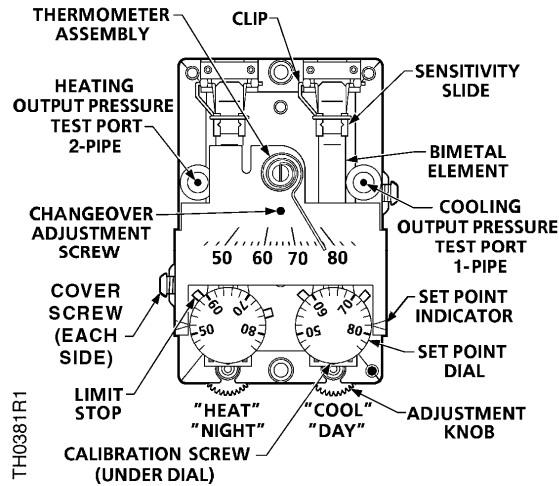

Figure 6. TH 193 HC Thermostat Details.
2. Place a screwdriver in the center of the thermometer assembly (Figure 6). Carefully rotate thermometer assembly until pointer tip indicates the correct room temperature.